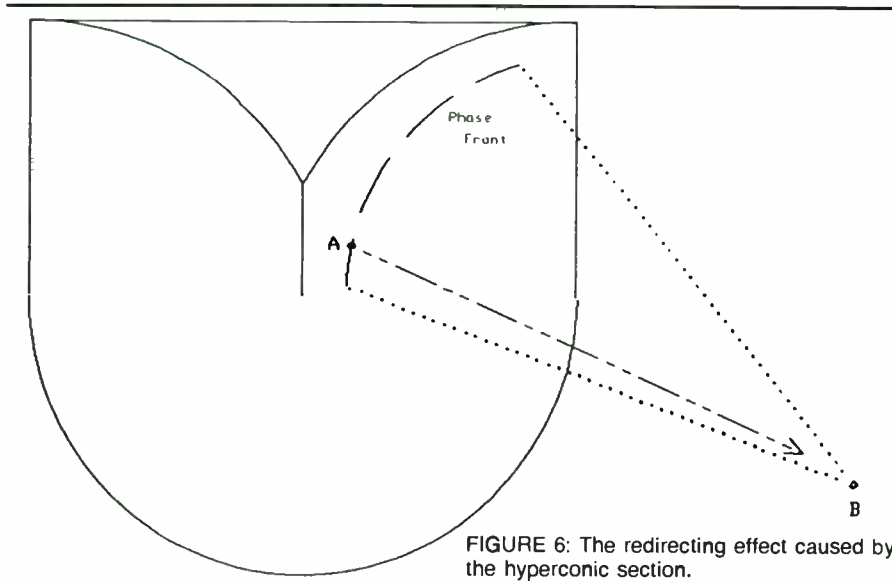
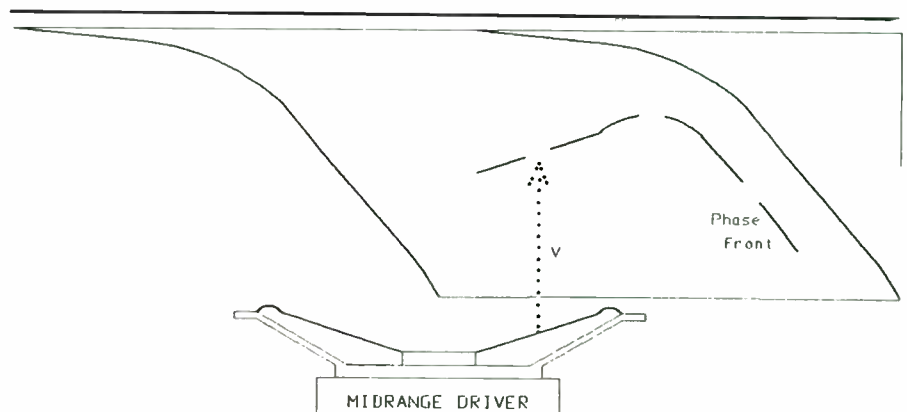

FIGURE 6: The redirecting effect caused by the hyperconic section.
FIGURE 7: The bottom of the wave vector is moving parallel to the driver's axis and has the phase front associated with it.
The output from the rear of the driver must strike a lens that not only renders it vertically phase coherent, but also focuses it. For this reason, the back of the lens is hyperconic; it still possesses the same slope, but is the opposite of a cone. In Fig. 6, point A denotes the bottom of the wave vector (V), more easily seen in Fig. 7. This wave vector moves parallel to the driver's axis and has the phase front associated with it. Because of this, the lens must have the previously calculated slope. If the lens curvature (with respect to the X-Y axis) is altered
Figure 6 displays this redirecting effect caused by the hyperconic section. B appears to be a focal point, but the focal point actually changes as you move around the driver. If you follow different wave vectors produced by different areas of the driver, you find that the focal point (B) moves. For this reason, the lens doesn't focus the output, but radiates it through 180° in the horizontal.